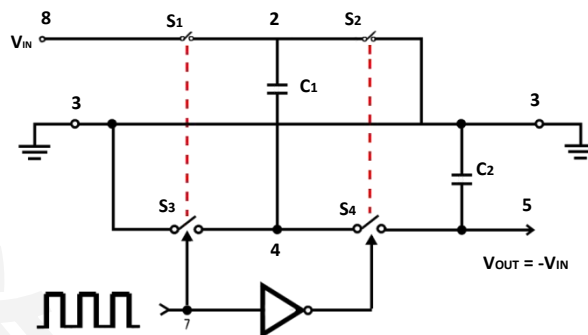
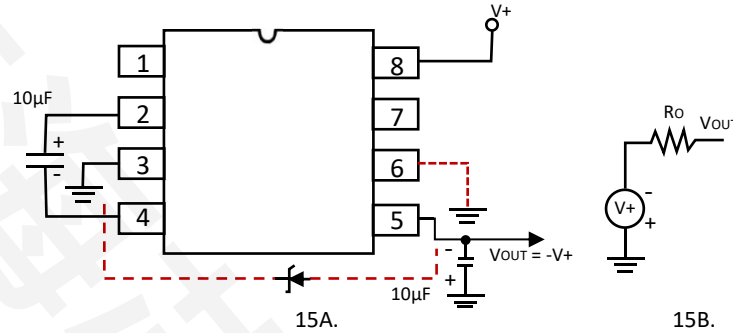
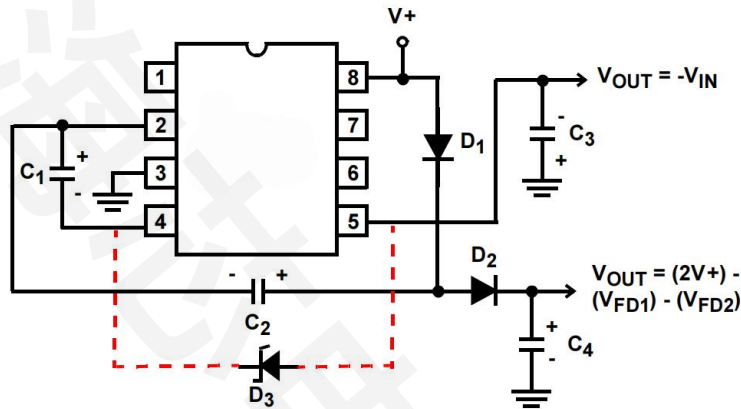
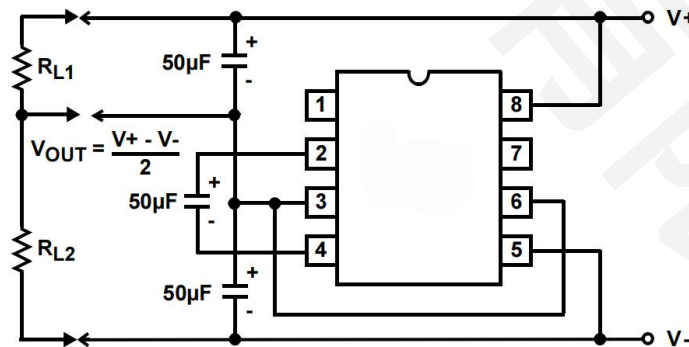

FIGURE 14. IDEALIZED NEGATIVE VOLTAGE CONVERTER
FIGURE 15. SIMPLE NEGATIVE CONVERTER AND ITS OUTPUT EQUIVALENT
FIGURE 19. COMBINED NEGATIVE VOLTAGE CONVERTER AND POSITIVE DOUBLER
FIGURE 20. SPLITTING A SUPPLY IN HALF
The ICL7660SCPAZ-HX contain all the necessary circuitry to complete a negative voltage converter, with the exception of two external capacitors, which may be inexpensive $10\mu F$ polarized electrolytic types. The mode of operation of the device may best be understood by considering Figure 14, which shows an idealized negative voltage converter. Capacitor C_1 is charged to a voltage, V_+ , for the half cycle, when switches S_1 and S_3 are closed. (Note: Switches S_2 and S_4 are open during this half cycle). During the second half cycle of operation, switches S_2 and S_4 are closed, with S_1 and S_3 open, thereby shifting capacitor C_1 to C_2 such that the voltage on C_2 is exactly V_+ , assuming ideal switches and no load on C_2 . The ICL7660SCPAZ-HX approach this ideal situation more closely than existing non-mechanical circuits.
In the ICL7660SCPAZ-HX, the four switches of Figure 14 are MOS power switches; S1 is a P-Channel device; and S2, S3 and S4 are N-Channel devices. The main difficulty with this approach is that in integrating the switches, the substrates of S3 and S4 must always remain reverse biased with respect to their sources, but not so much as to degrade their “ON” resistances. In addition, at circuit start-up, and under output short circuit conditions ($V_{OUT} = V+$), the output voltage must be sensed and the substrate bias adjusted accordingly. Failure to accomplish this would result in high power losses and probable device latch-up.
where V1 and V2 are the voltages on C1 during the pump and transfer cycles. If the impedances of C1 and C2 are relatively high at the pump frequency (see Figure 14) compared to the value of RL, there will be a substantial difference in the voltages, V1 and V2. Therefore it is not only desirable to make C2 as large as possible to eliminate output voltage ripple, but also to employ a correspondingly large value for C1 in order to achieve maximum efficiency of operation.
The majority of applications will undoubtedly utilize the ICL7660SCPAZ-HX for generation of negative supply voltages. Figure 15 shows typical connections to provide a negative supply where a positive supply of +1.5V to +12V is available. Keep in mind that pin 6 (LV) is tied to the supply negative (GND) for supply voltage below 3.5V.
The output characteristics of the circuit in Figure 15 can be approximated by an ideal voltage source in series with a resistance as shown in Figure 15B. The voltage source has a value of $-(V+)$. The output impedance (R_O) is a function of the ON resistance of the internal MOS switches (shown in Figure 14), the switching frequency, the value of C_1 and C_2 , and the ESR (equivalent series resistance) of C_1 and C_2 . A good first order approximation for R_O is shown in Equation 2:
Figure 19 combines the functions shown in Figure 15 and Figure 18 to provide negative voltage conversion and positive voltage doubling simultaneously. This approach would be suitable, for example, for generating +9V and -5V from an existing +5V supply. In this instance, capacitors C1 and C3 perform the pump and reservoir functions, respectively, for negative voltage generation, while capacitors C2 and C4 are pump and reservoir, respectively, for the doubled positive voltage. There is a penalty in this configuration which combines both functions, however, in that the source impedances of the generated supplies will be somewhat higher, due to the finite impedance of the common charge pump driver at pin 2 of the device.
The bidirectional characteristics can also be used to split a high supply in half, as shown in Figure 20. The combined load will be evenly shared between the two sides, and a high value resistor to the LV pin ensures start-up. Because the switches share the load in parallel, the output impedance is much lower than in the standard circuits, and higher currents can be drawn from the device. By using this circuit, and then the circuit of Figure 15, +15V can be converted, via +7.5 and -7.5, to a nominal -15V, although with rather high series output resistance ($\sim 250\Omega$).